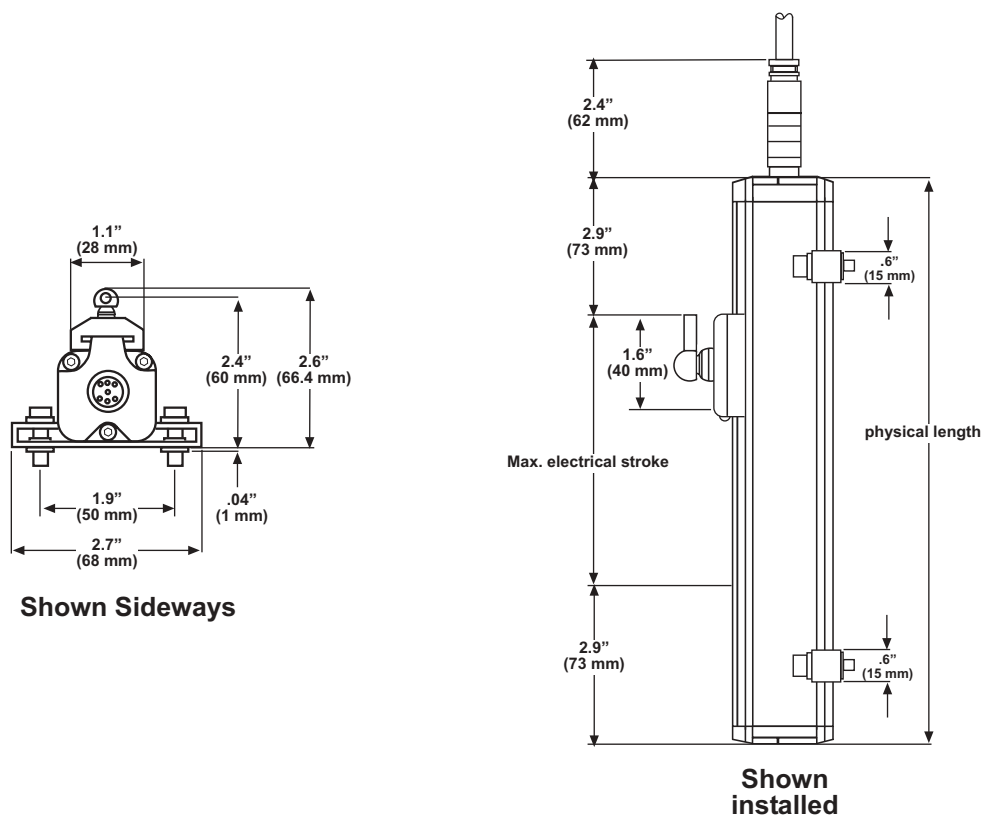

Figure 2-6. Transducer (reflects dimensions)
4. Attach the second bracket to the ram and connect to the magnet to the rod. Make sure the magnet is within the electrical range and the arrow on the magnet is facing the electrical connection when the press moves up and down. A line on the face of the transducer denotes the beginning of the electrical range. If the magnet falls outside of the electrical range, it will not work properly. See Fig. 2-6, Pg. 24.